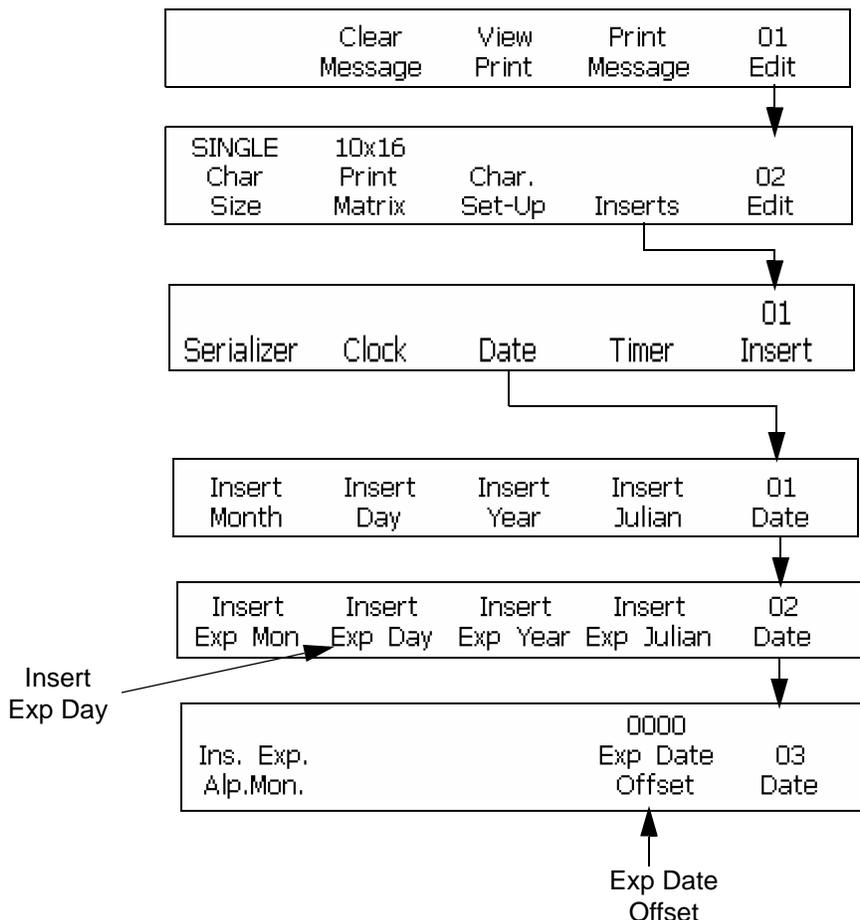

Figure 6-36: Accessing Frame <03 DATE>
- 1 Begin in the Frame <02 Date>. Refer to Figure 6-36 on page 6-45.
- 4 Press F5 to go to Frame <03 Date>. Refer to Figure 6-36 on page 6-45.